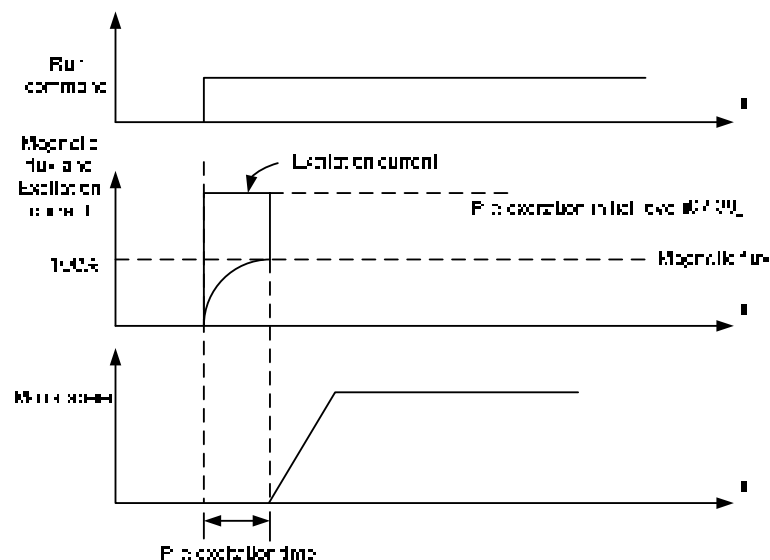

Figure 4.3.62 Pre-excitation operation
- (1) When an operation command (forward or reverse) is activated, the inverter will automatically start pre-excitation based on the time set in parameter 07-37.
- (2) The time for the flux to reach 100% is a function value of motor's electrical time constant, see figure 4.3.62.
- (3) Electrical time constant (quadratic by-pass circuit time constant) can be calculated by motor parameter setting (group 02).
- (1) Use the pre-excitation initial level (07-38) to provide a higher excitation current during the pre-excitation time (07-37), which will increase the speed and stability for motors.
- (2) In order to quickly magnetize the motor, reduce the pre-excitation time (07-37) and set the pre-excitation level (07-38) to a high level.
- (3) If 07-38 is set greater than 100%, providing a high excitation current during the pre-excitation time (07-37), motor's magnetization time is shorted. When the setting reaches 200%, magnetization is reduced by roughly half.
- (4) A high pre-excitation level (07-15) might result in excessive motor sound during pre-excitation.
- (5) When the flux reaches 100%, pre-excitation current reverts back to 100% and pre-excitation is completed, refer figure 4.3.62 °